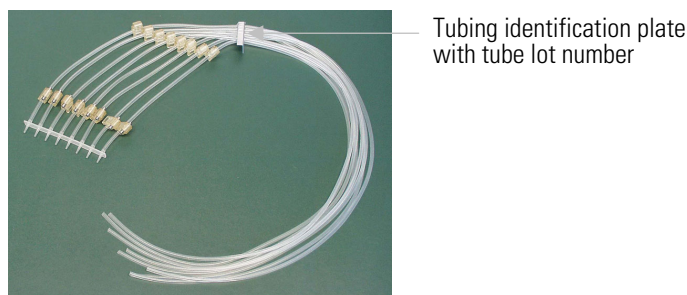

Figure 5–28. New tubing set with the tip band attached
2. Remove the four cover retaining screws on the lower part of the dispensing cassette; the tubes with the tube fasteners and the tip manifold with the tips; the three cover retaining screws on the upper part of the dispensing cassette; the two tension limiting wires; the calibration screws (Figure 5–43), and the tubes with the tube fasteners. Save the calibration screws and the PEEK tubing weight for installing the new tubing set.